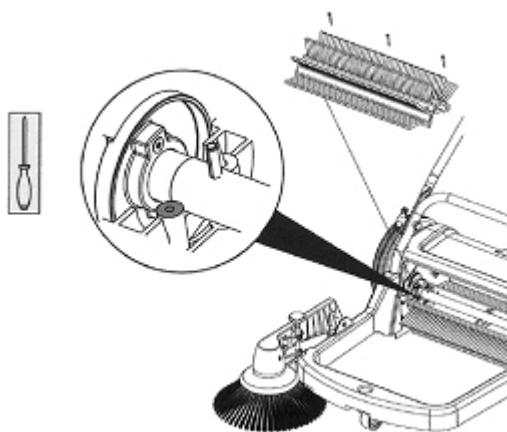

Fig. 11
- Pull the brush core assembly to the front to remove it from the brush shaft (Fig. 11).